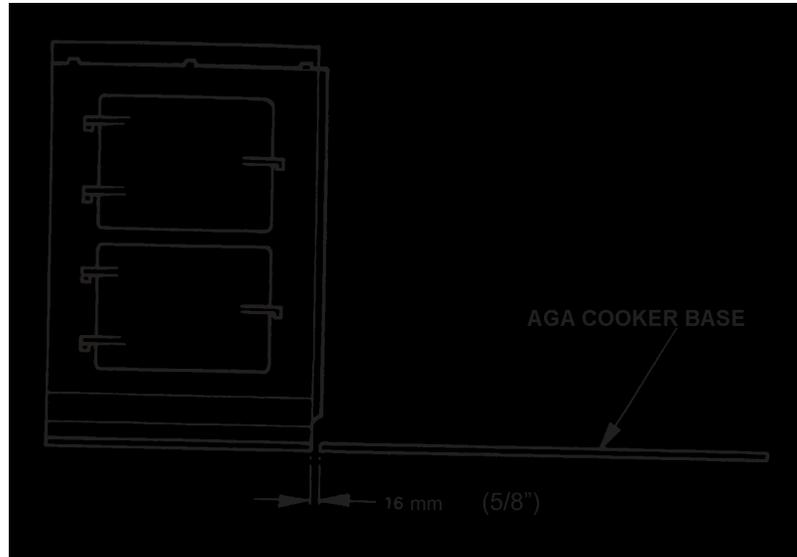

Fig 6
6. Position the cooker alongside the main Aga baseplate leaving 5/8" between the two bases (See Fig. 6).